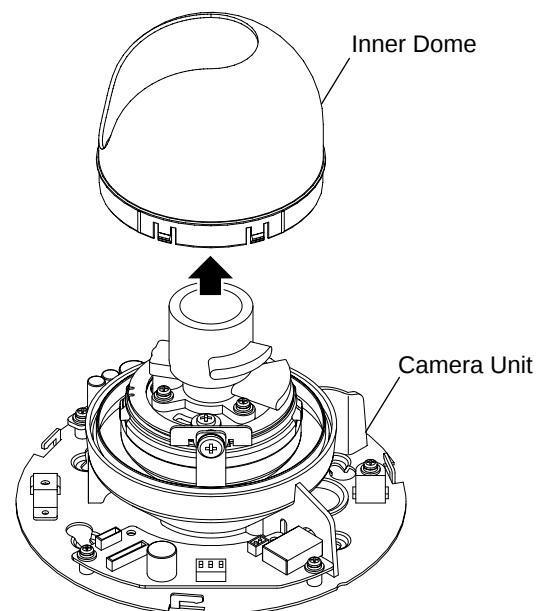

Fig. 2-2
- Referring to Fig. 2-2, remove the Inner Dome in the direction of the arrow from the Camera Unit carefully.